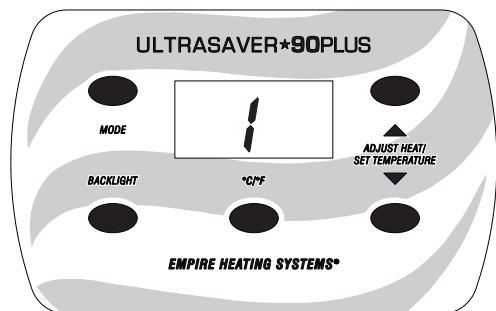

Figure 7
1. To operate the wall furnace in Manual mode, press the "Mode Select" button on the display panel twice from off mode until a number appears in the Heat Level location on the display panel. **See Figure 7.** The wall furnace will begin the start up sequence.